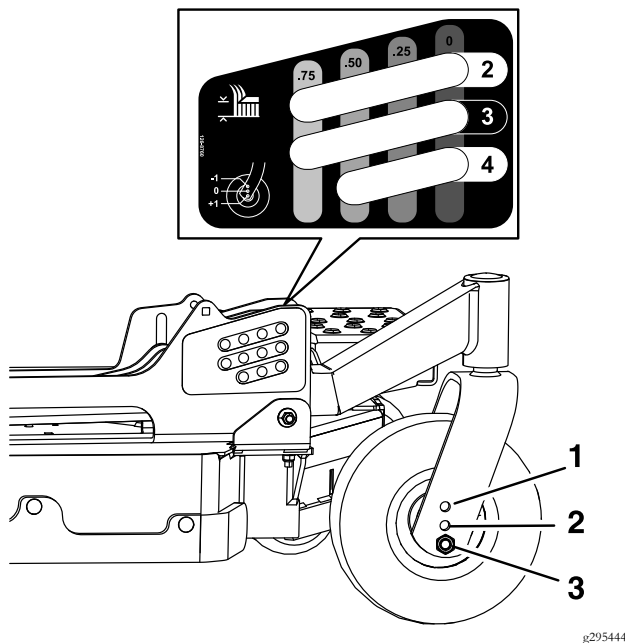

Figure 26
- B. Adjust the front and rear gauge wheels to the appropriate hole location (see the chart below and Figure 26) and reinstall the mounting hardware.